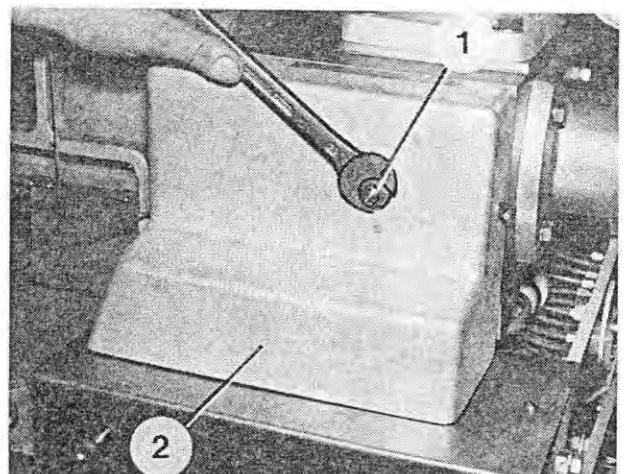

Fig. 205
10. Unscrew the hex nut (Figure 205/1) which keeps the protective hood (Figure 205/2) in position. Remove the protective hood.